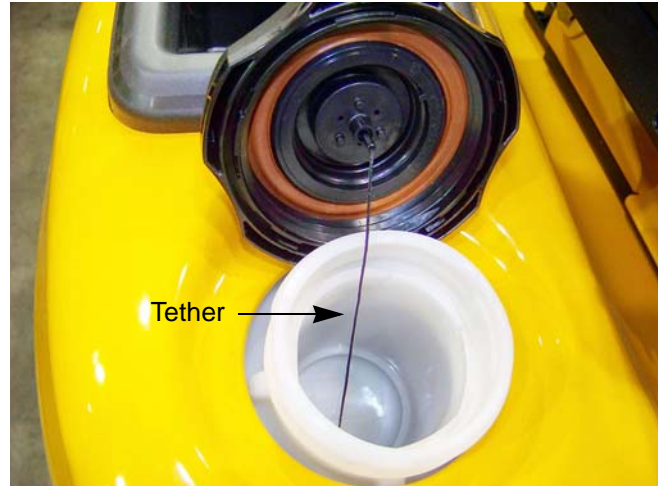

Figure 2.8
10. Pull the fuel cap tether retainer out of the fuel tank using a long pair of pliers. See Figure 2.8.